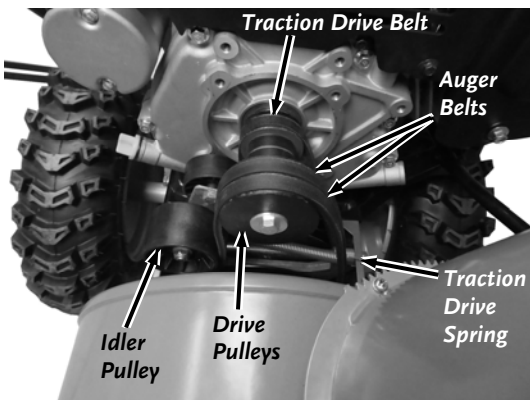

Figure 64
4. Roll the front Auger Belt off the front of the Engine Drive Pulley and the rear Auger Belt off the back of the Engine Drive Pulley (**Figure 64**).
12. Install the Friction Drive Spring to the Frame (**Figure 64**).